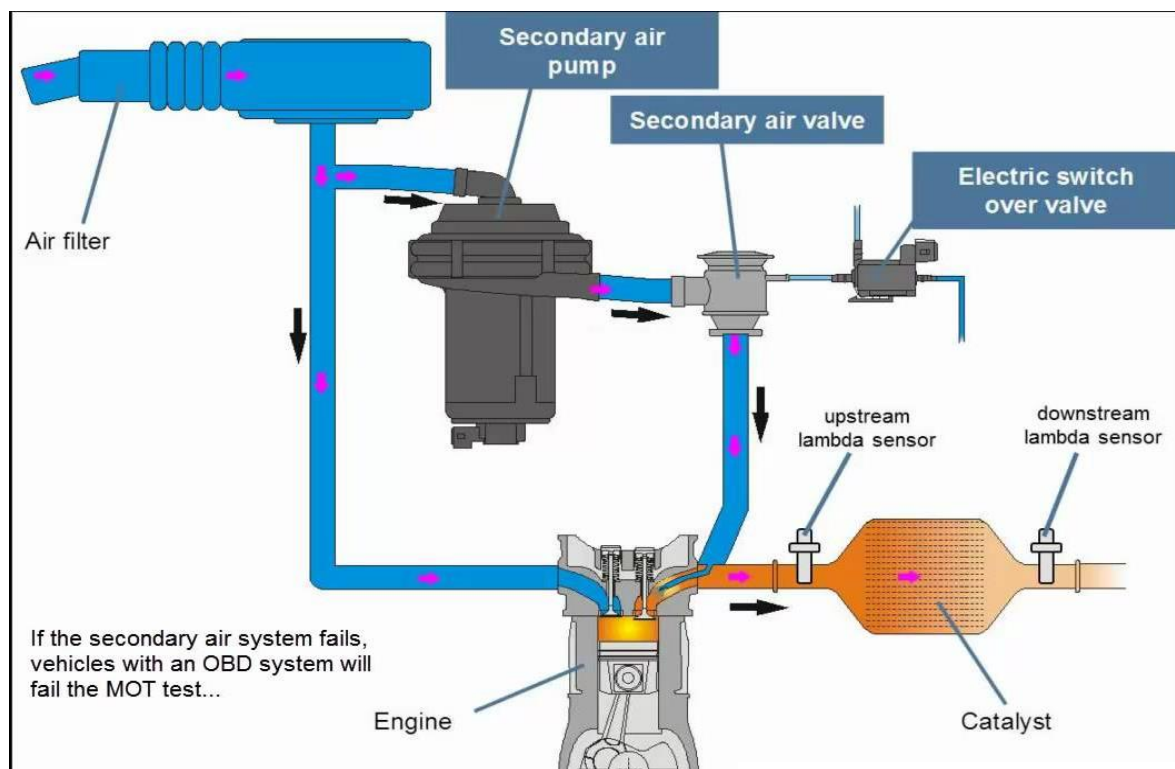

Figure 7 – Engine SAIR, Youtube.com (2019)
Secondary Air Injection (SAIR) – The SAIR system is used to help an engine to reduce the emissions produced during a cold start, this is where the engine hasn't been run for a while, but the system will stop working once the engine has reached an acceptable temperature. It can do this by introducing some air into the exhaust system to mix with the gases flowing through, and this oxygen will mix with the gases to convert the HC and CO into less harmful CO₂ and H₂O. An image of this system is shown by Figure 7 in the bibliography.
- **Figure 7** – Engine SAIR system diagram